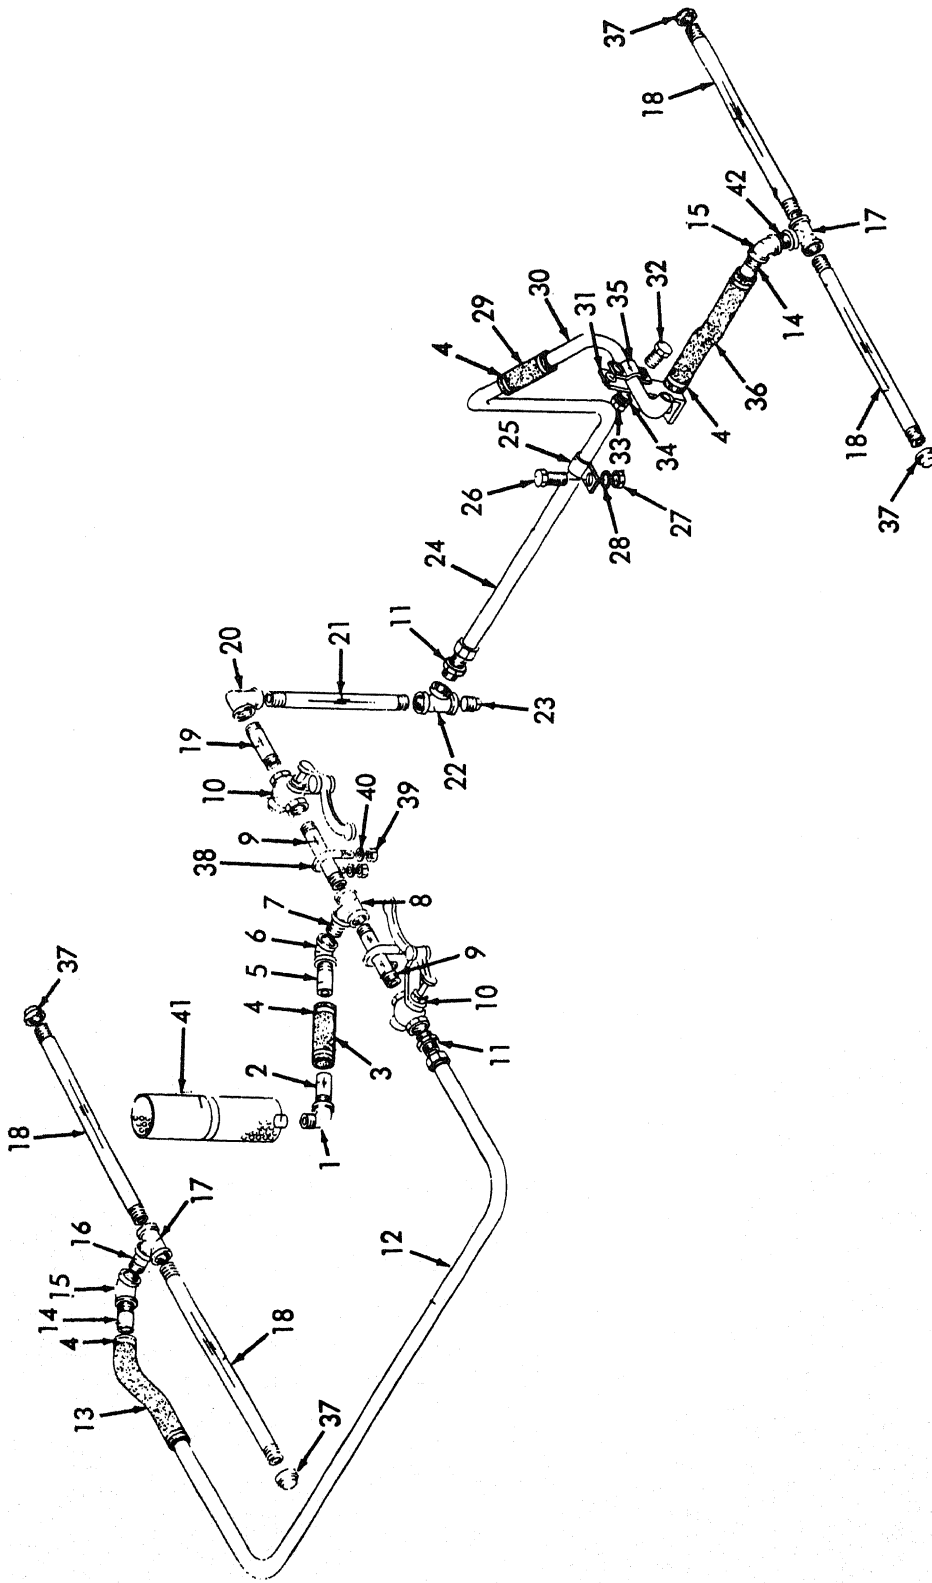

Figure 3-82. Sprinkler system, exploded view.
- (1) Remove plug (23, fig. 3-82). Depress guide roll sprinkler pedal to drain water tank.
- (2) Remove side doors and platform (para 3-121).
- (3) Drain fuel tank and remove fuel line (para 3-57).
- (4) Disconnect adapter (11, fig. 3-82) and remove tee (22) and pipe (21).
- (5) Remove drive roll housing (water tank) as instructed in paragraph 3-118.
- (1) Remove side doors, drive roll housing door, and upper dust shield panel (para 3-118).
- (2) Remove plug (23, fig. 3-82) and depress sprinkler pedals to drain the system.
- (3) Remove hose clamps (4) and hoses (3, 13, 29, and 36).
- (4) Remove caps (37), sprinkler pipes (18), tees (17), nipples (16 and 42), elbows (15), and slip nipples (14).
- (5) Disconnect adapter (11) and remove pipe (12).
- (6) Remove clamp (35) and tube (30).
- (7) Remove clamp (25) and disconnect adapter (11) to remove tube (24).
- (8) Remove tee (22) and pipe (21).
- (9) Remove U-bolts (38) and remove items (5, 6, 7, 8, 9, 10, 19, and 20) as a unit and then disassemble.
- (10) Remove slip nipple (2) and elbow (1).